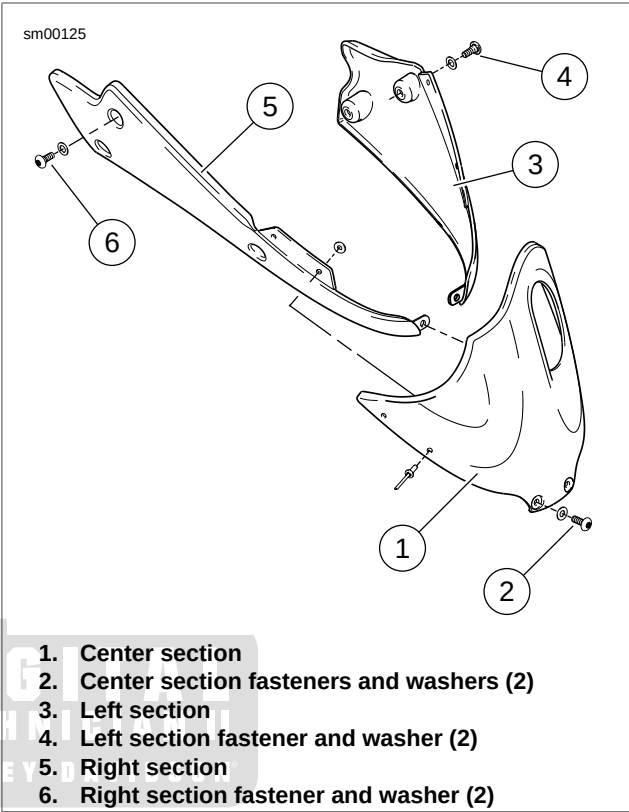

Figure 2-189. Chin Fairing
- 2. See Figure 2-189. Remove center section fasteners and washers (2).
- 3. Remove left section fasteners and washers (4).
- 4. Remove right section fasteners and washers (6).
- 2. See Figure 2-189. Position the assembled chin fairing and loosely install right side fasteners and washers (6).
- 3. Align center section (1) and loosely install center section fasteners and washers (2).